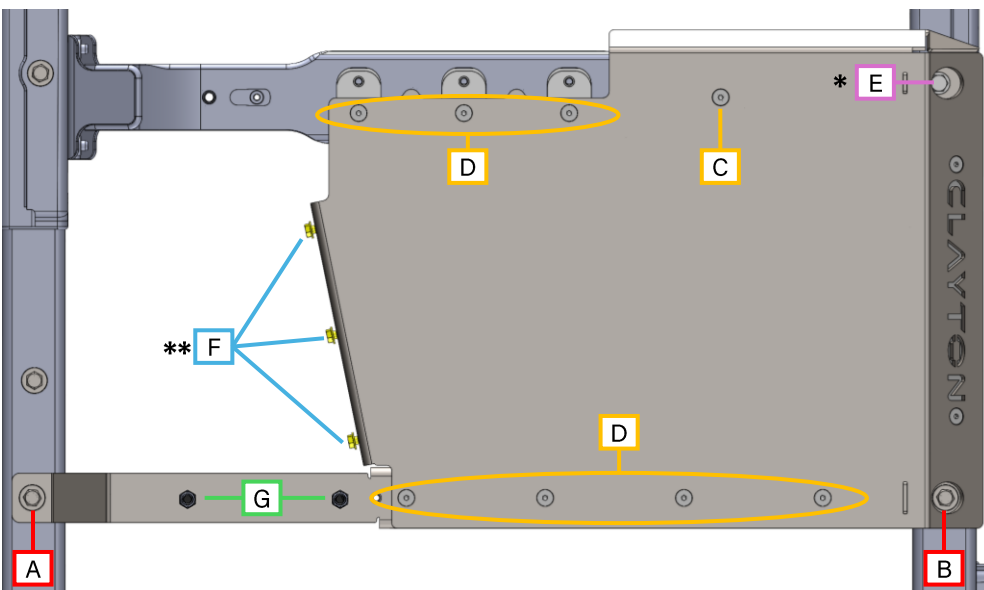

Figure 11 : bolt callouts on transfer case skid plate
10. Proceed with Table 1 while referencing Figure 11. Tighten the transfer case skid plate hardware to the following specification. **Pay attention to the * notes at the bottom of the page.**